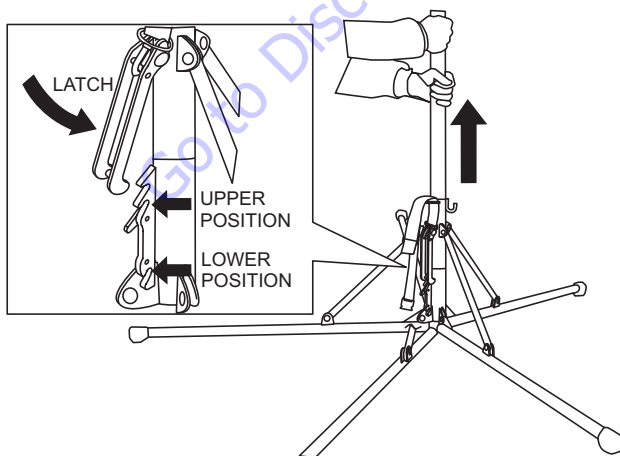

Figure 31. Unlocking the Latch
- Lift mast while pulling up strap (Figure 31).